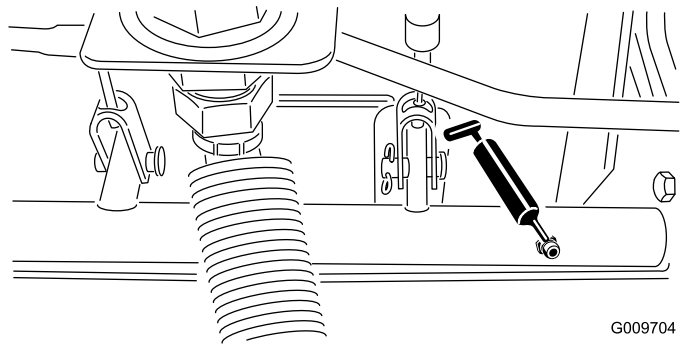

Figure 64
- Brake shaft pivot bearings (5) (Figure 64)